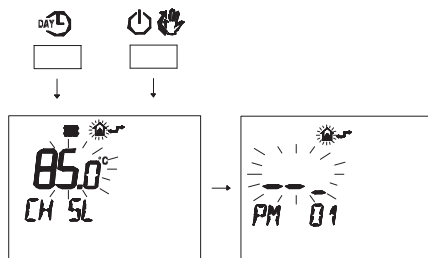

Fig. 7.29
- Press buttons **DAY** and **POWER** at the same time to enter transparent programming (Fig. 7.29).